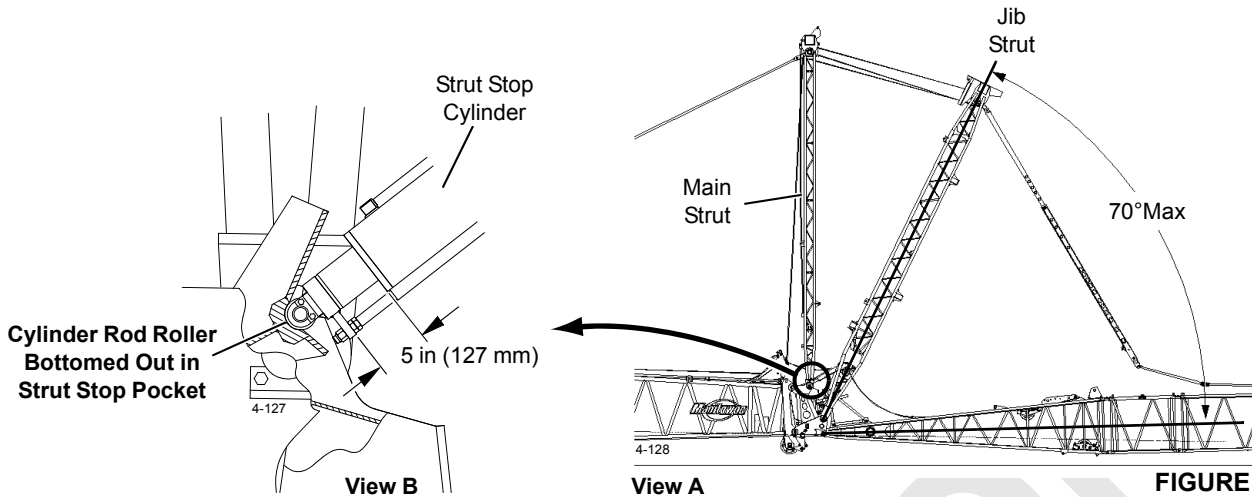

FIGURE 4-14
- b. Install shims (3, View D) under supports (4) so that when rollers bottom out in strut stop pockets on boom top (Figure 4-14, View B) gap is 1/8 in (3 mm) between supports (4) and underside of cylinders.
- c. Reposition stop blocks (5, View E) so distance between stop blocks and supports (4) is 5 in (127 mm).
Do not raise jib strut above 70° during erection while boom is on ground. Structural damage to jib strut or strut stop cylinders will occur. At 70° strut angle, cylinder rods will have approximately 5 in (127 mm) travel remaining (Figure 4-14, View B).